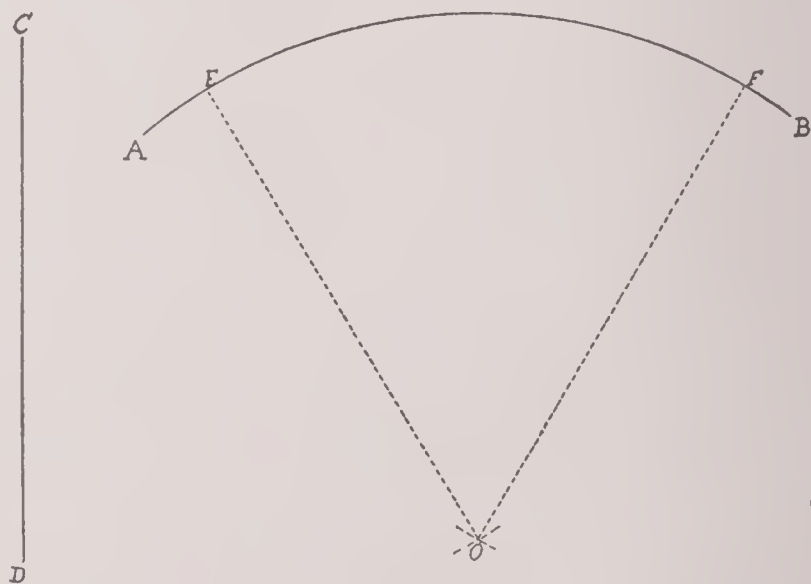

Fig. 11
11. To find the center of a given arc, having given its radius (Fig. 11):